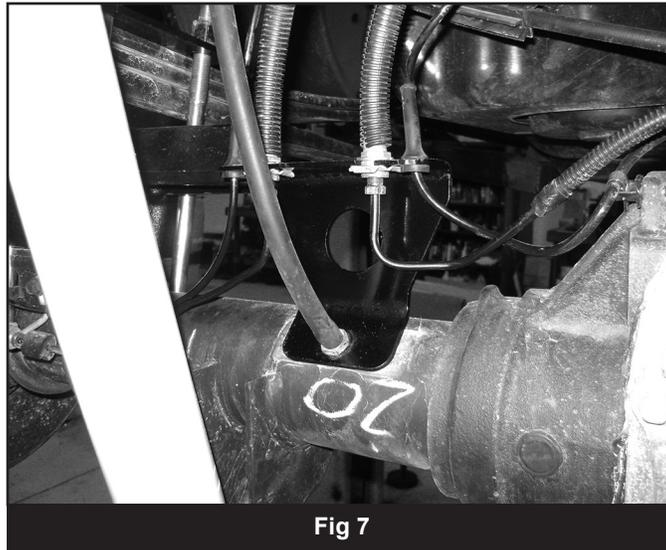

Fig 7
19. (4" & 6" Lifts Only) Install new brakeline relocation bracket on the axle with stock breather tube stud. Install brakelines with original clips into the new bracket. Attach ABS wires into the new bracket. Attach diff breather line to the axle breather stud. (Fig 7).